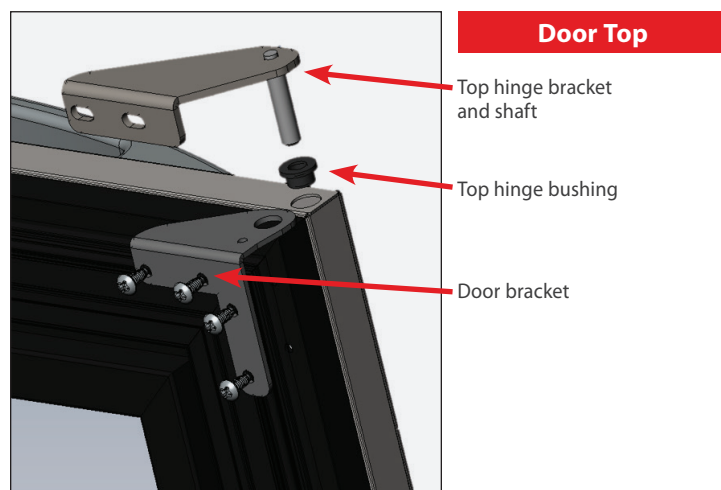

Fig. 4a. Top hinge components.
4. Remove all door hardware except the door handle (see figs. 4a and 4b). Set the door brackets aside.